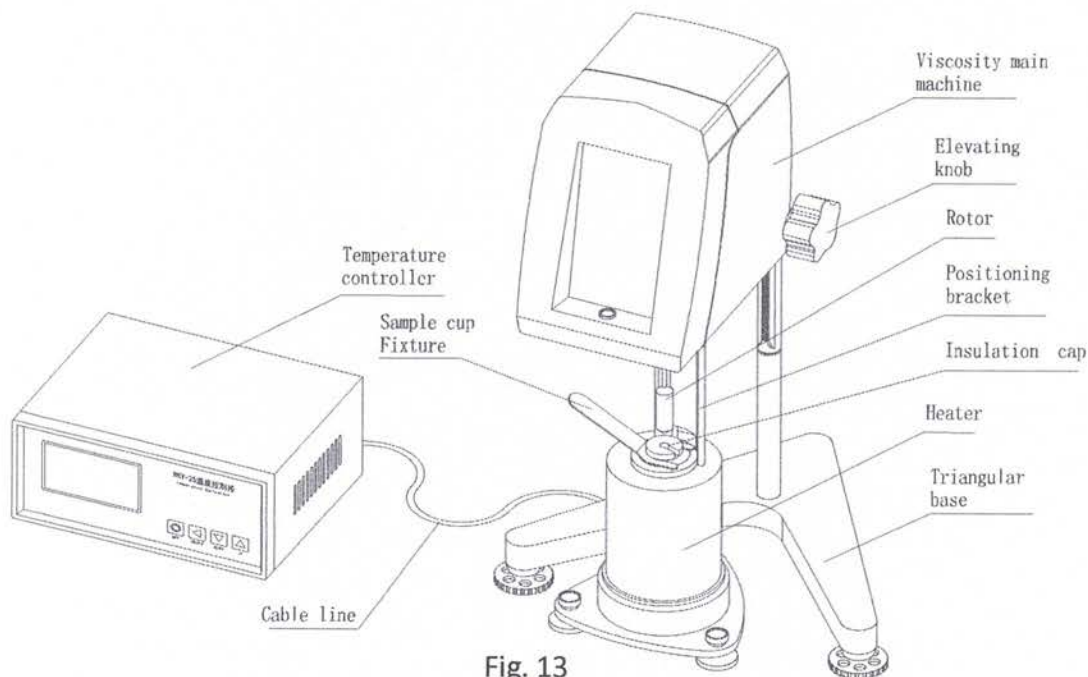
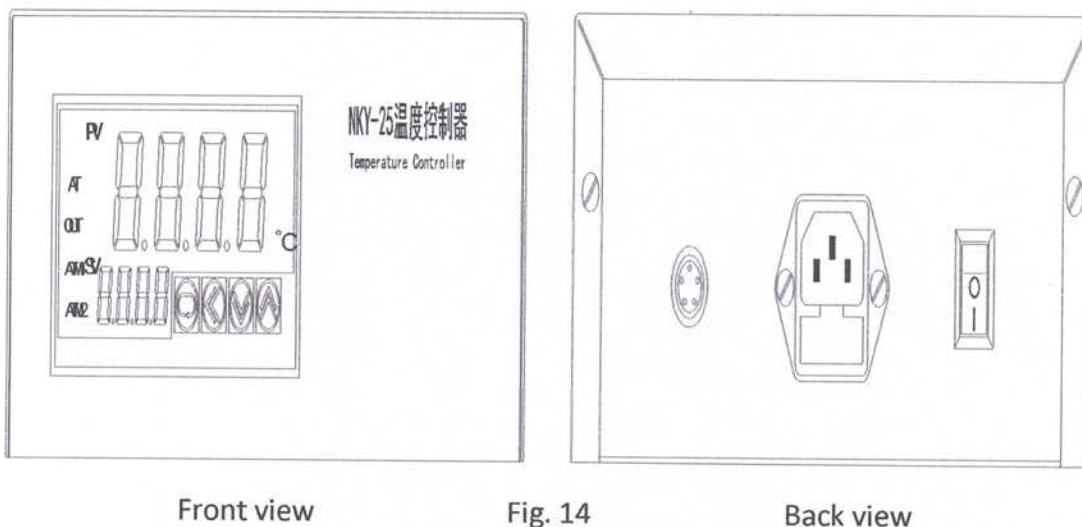

Fig. 13
Fig. 14
3) Insert the lead of the heating furnace into the signal input port of the back cover of the temperature controller correspondingly, Please refer to Fig. 13 for the completed appearance. (Please pay attention to the direction when inserting the lead wire, and insert the corresponding slot to the corresponding position before inserting the connection.) The front and back views of the NKY-25 temperature controller are detailed in Fig.14.
1) As shown in Fig.14, the front view of the temperature controller